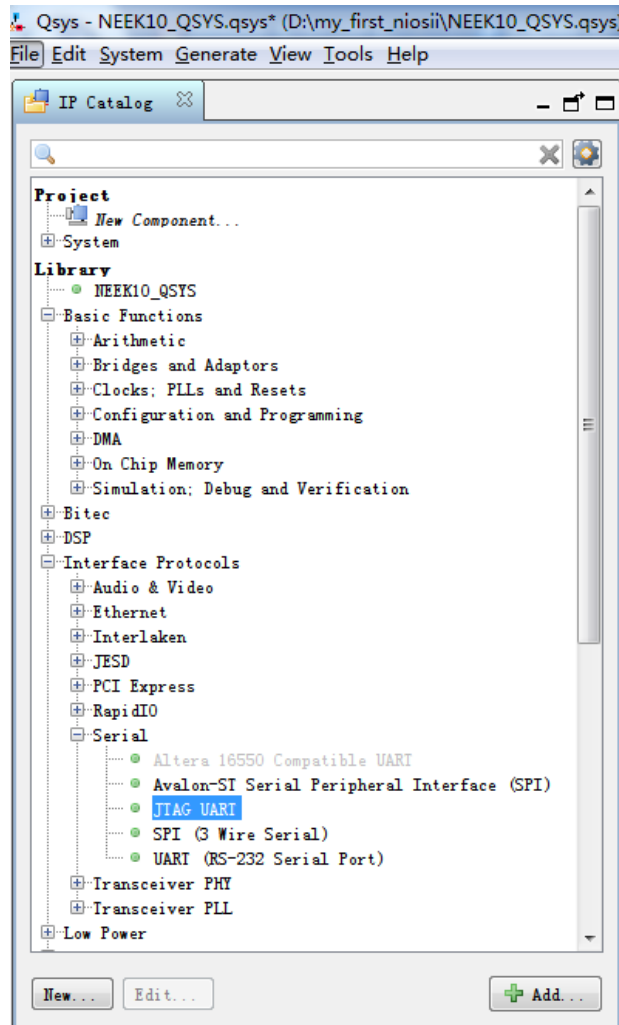
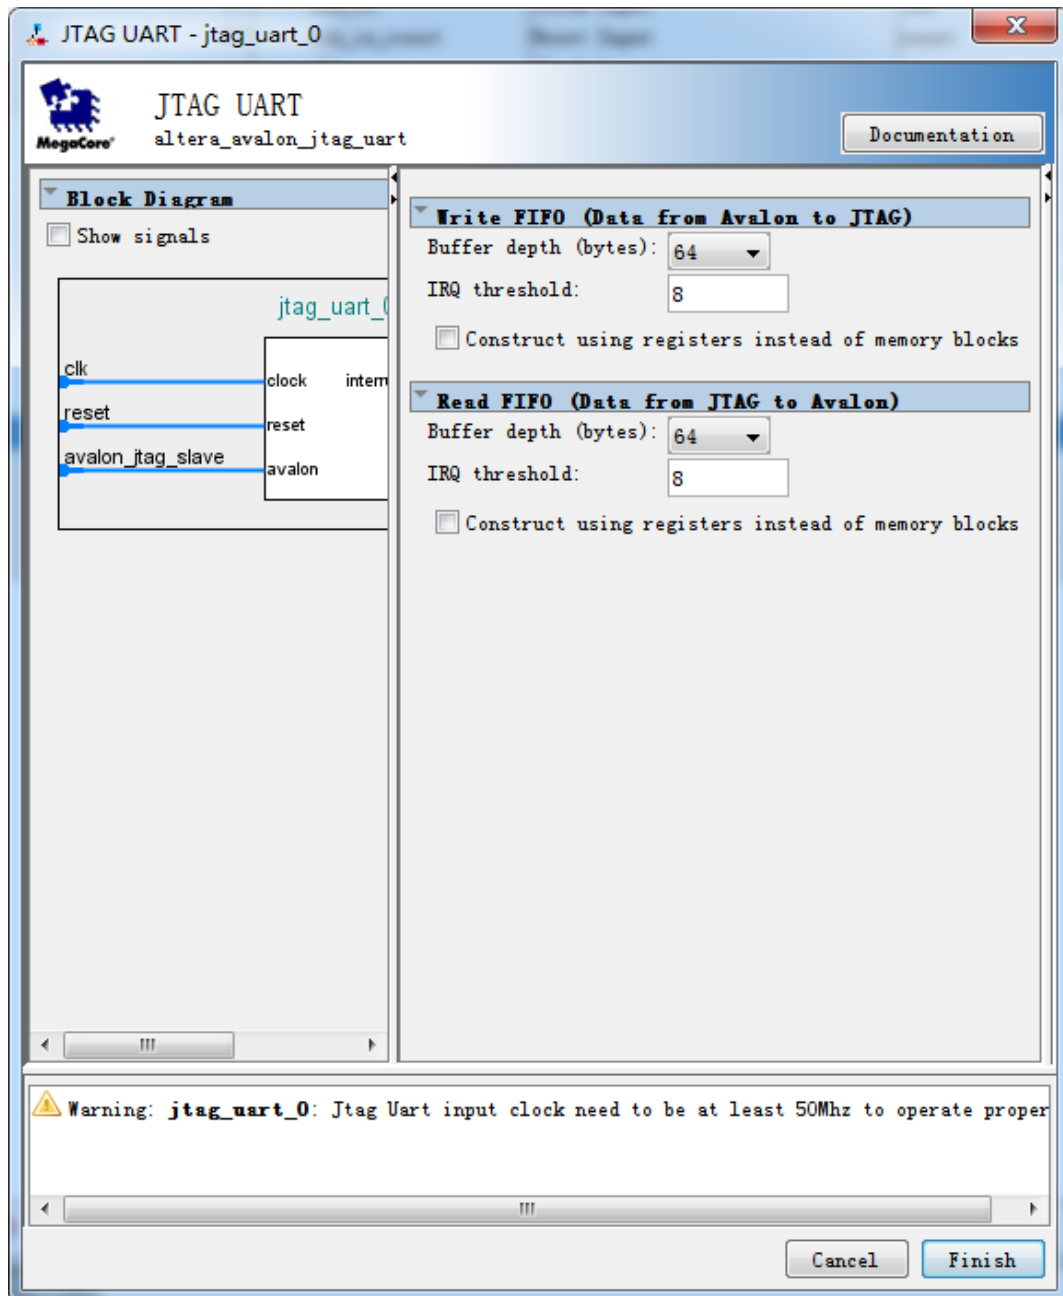

Figure 1-19 Add JTAG UART
Figure 1-20 Settings of JTAG UART
11. Choose **Library -> Interface Protocols -> Serial -> JTAG UART** to add JTAG UART and click **Finish**, as shown in **Figure 1-19** and **Figure 1-20**.